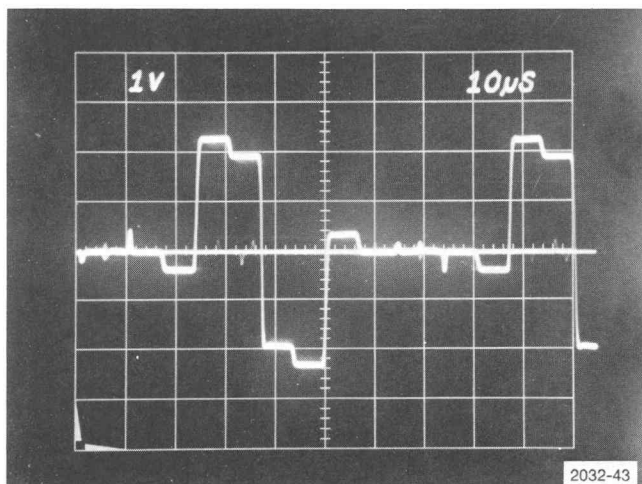
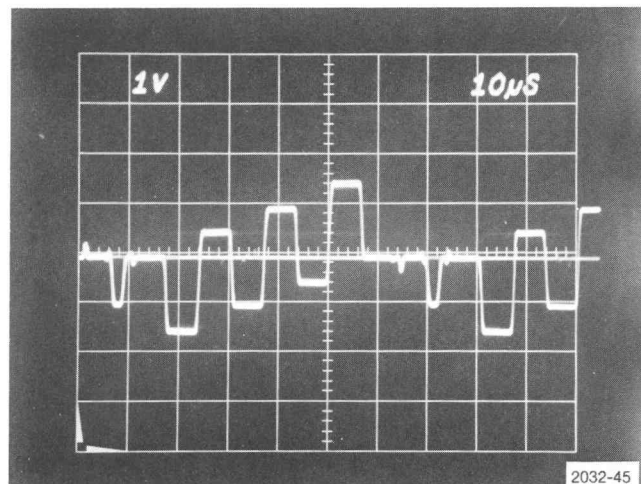
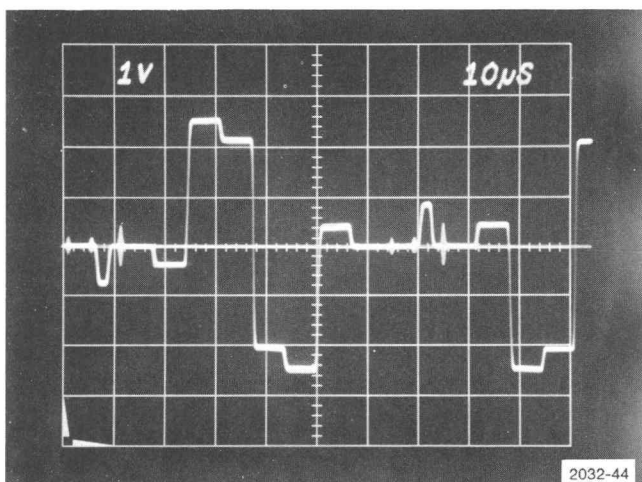

Fig. 4-13. 1420—typical waveform at TP1919.
Fig. 4-15. 1420—typical waveform at TP1954.
Fig. 4-14. 1421, 1422—typical waveform at TP1919.
- e. Check—All color dots should fall within 1° of the R-Y (V) axis graticule line.
- f. Adjust—R1916 (V Align) until all color dots fall within 1° of the R-Y (V) axis graticule line.
- g. Set the Video Generator Color Bar B-Y (U) switch on, and Color Bar R-Y (V) switch off.
- h. Check—All color dots should fall within 1° of the B-Y (U) axis graticule line.
- i. Adjust—R1951 (H Align) until all color dots fall within 1° of the B-Y (U) axis graticule line.
- j. Set the Video Generator Color Bar R-Y (V) switch on.
b. Check—The demodulated R-Y (V) chrominance should be free from rolloff, peaking, and ringing. See Fig. 4-13 or Fig. 4-14.
c. Adjust—L1821 and L1827 [R-Y (V) Filter] for best transient response.
e. Check—The demodulated B-Y (U) chrominance should be free from rolloff, peaking, and ringing. See Fig. 4-15 or Fig. 4-16.